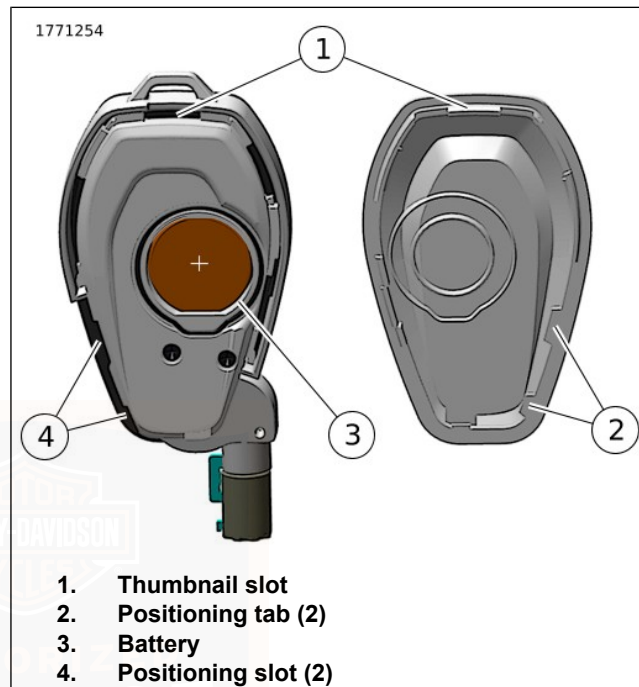

Figure 23. Fob Battery
- a. See Figure 23. Insert blade of a 3/16-inch flathead screwdriver in the thumbnail slot (1)
- a. Carefully insert the blade of a 1/8-inch flathead screwdriver under the battery (3) and lift.
- a. Align the positioning tabs (2) with the positioning slots (4).